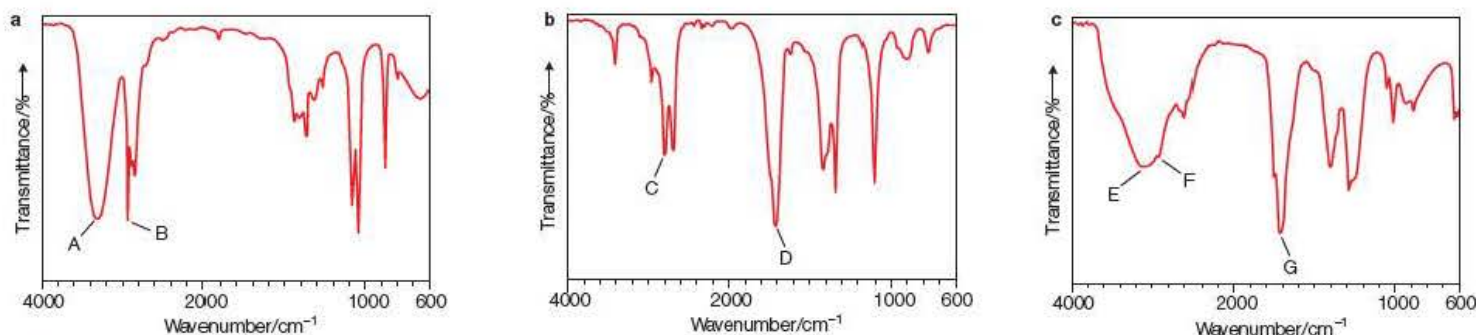

Figure 17.10
- Figure 17.10 shows the infrared spectra of ethanol, ethanal and ethanoic acid.